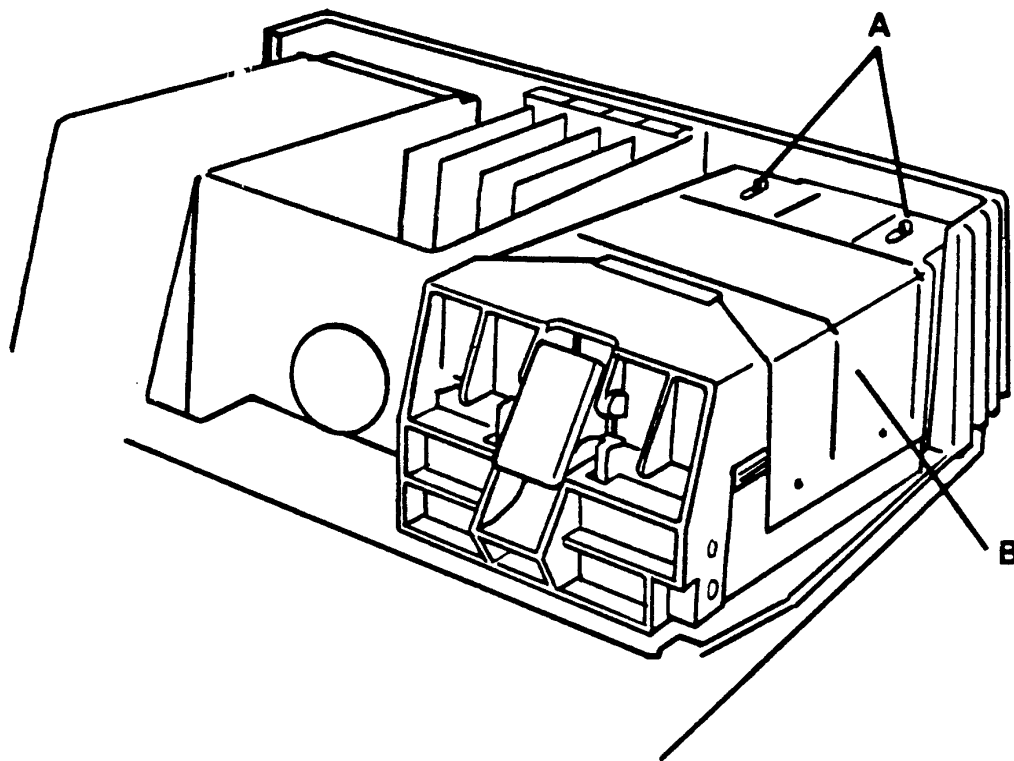

FIGURE 4.1
3. Locate the two Tinnerman retaining clips which hold down the Disk Assembly shield. Refer to Figure 4.1 item A.
6. Remove and retain the Disk Assembly shield by flexing the side out (Figure 4.1 item B) and lifting up on the shield. NOTE: The shield is only retained by the spring tension of the sides and four dimples which fit into depressions of the disk casting.